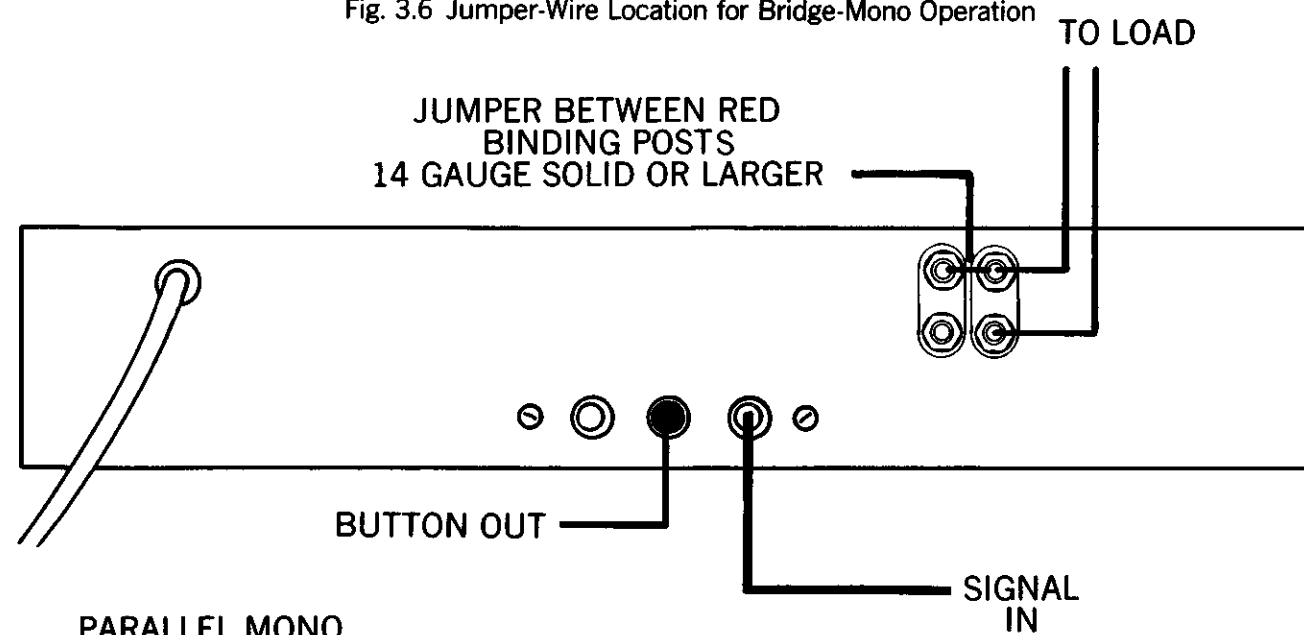

Fig. 3.7 Parallel Mono Hookup
4. Connect the output lines according to Fig. 3.7. Note the jumper between the red binding posts. Be sure to remove this jumper whenever you want to use the amplifier in 2-channel stereo mode; otherwise you may damage the amplifier.